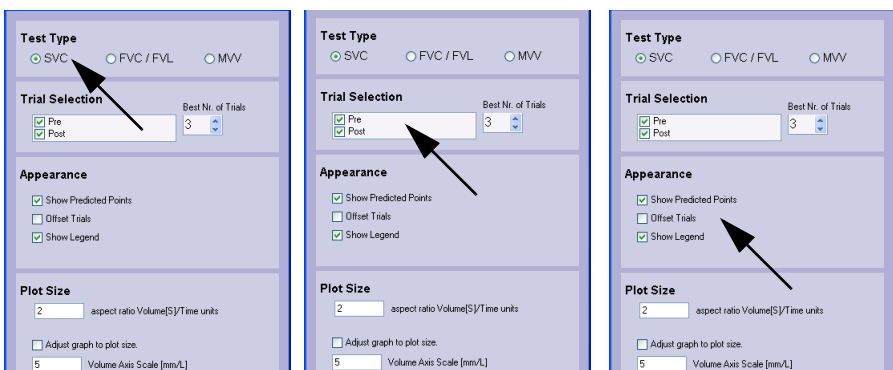

Fig. 12-10: Spiro Graph Configuration window
- Click **Run Designer**. The Spiro Graph Configuration window will be displayed (Fig. 12-10:).